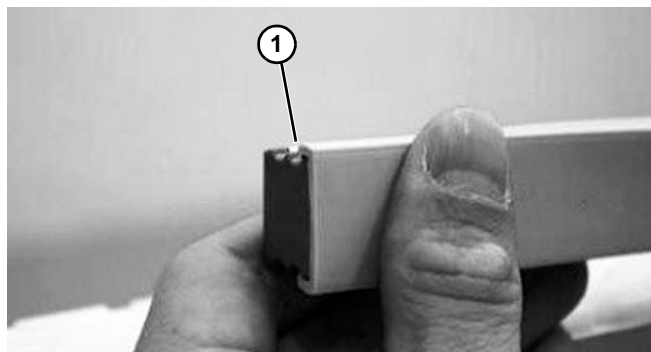

Figure 112
2. Make sure that all cover joints (**Figure 112, item 1**) are smooth, so that products do not get caught or damaged. Covers are not required on guide rail joints.